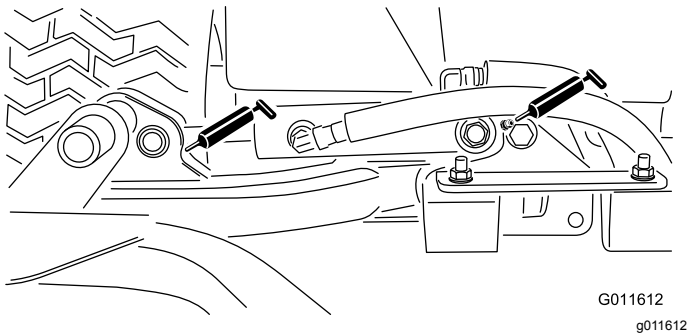

Figure 28
- Cutting unit lift-arm cylinders (2 each)—Figure 28
- Lift-arm pivots (1 each)—Figure 28